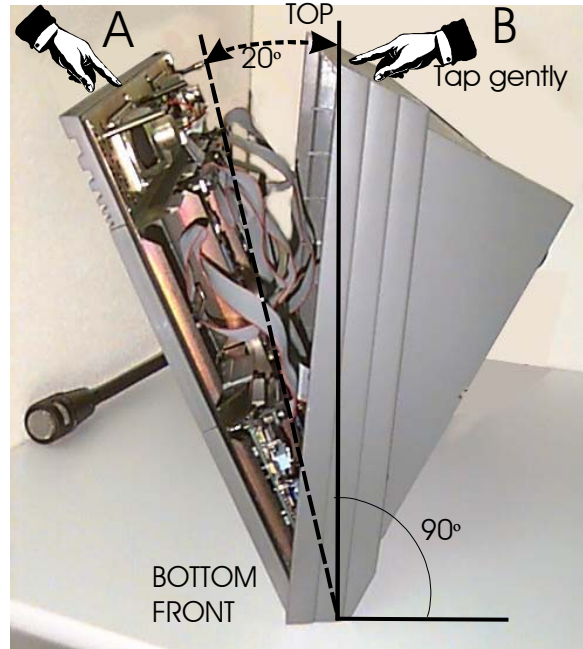

Figure 6-2: Removing the Top of the Desktop Assembly
2. Once the top of the Desktop assembly is free, bring the Desktop forward and up at a 90° angle, while holding the top of the desktop, as shown in Figure 6-2.
3. Tilt the bottom of the Desktop assembly by another 20° while holding the top of the Desktop. By tapping the back of the console gently, as shown in Figure 6-2 (B), the top of the Desktop should loosen and come forward. If the top of the Desktop does not
come loose, you can use nail pressure, as shown in Figure 6-2 (A), to help it come loose.